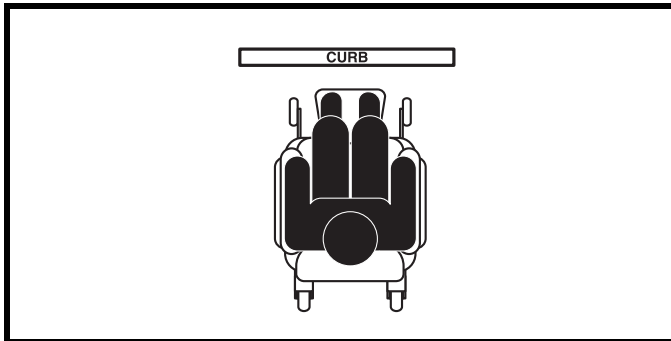

Figure 2. Correct Curb Approach
1. Approach the curb or obstacle slowly, and make sure the power chair is traveling perpendicular to the obstacle. **See figure 2.**
1. Approach the curb or obstacle slowly, and make sure the power chair is perpendicular to the obstacle. **See figure 2.**